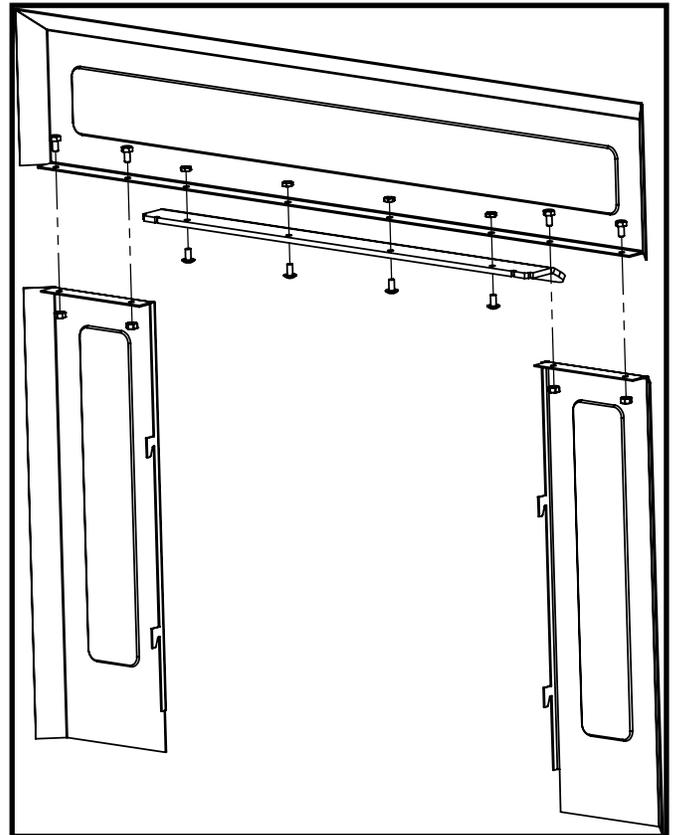

Figure 18: Surround assy.
2. Fasten the panels together with 1/4" x 1/2" bolts and nuts provided through holes (Figure 18).